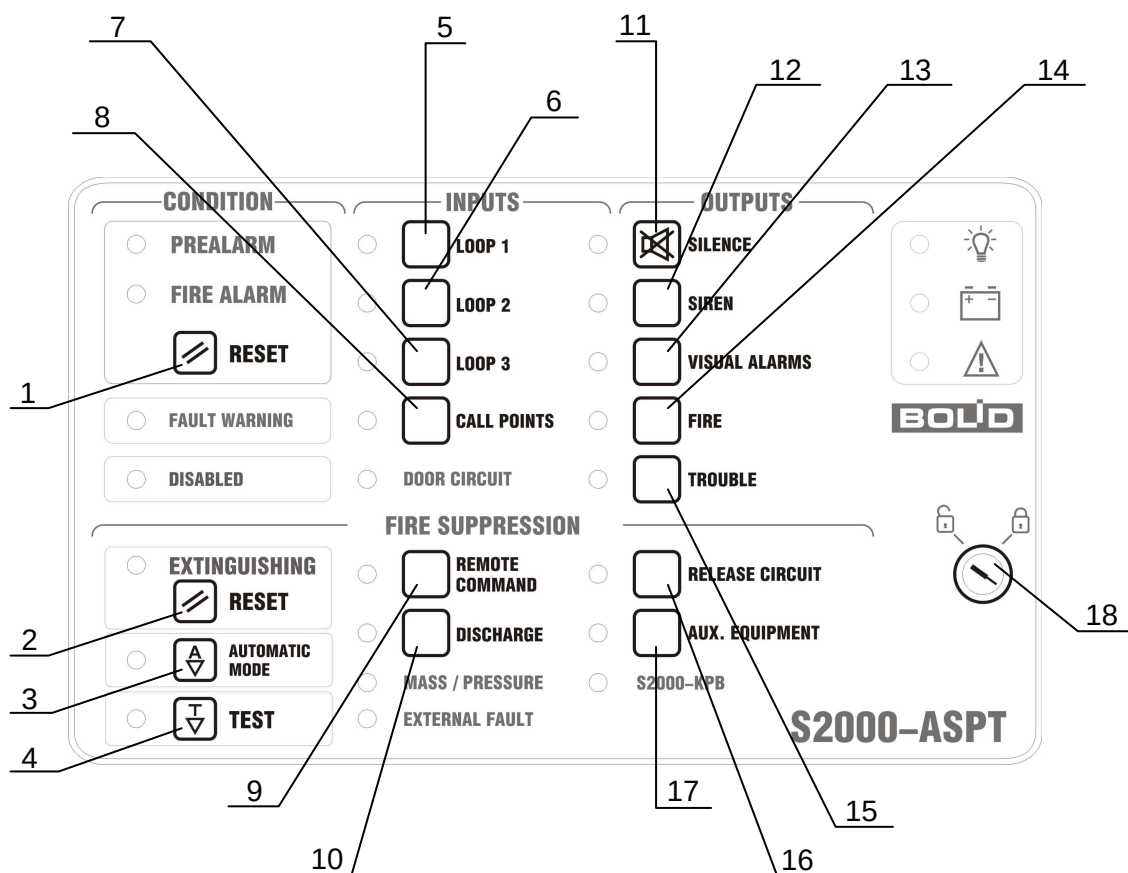

Figure 2.2 Push Buttons and Key Switch
2.9 There are 17 function pushbuttons and a key switch on the faceplate of the S2000-ASPT. The arrangement of the pushbuttons is shown in Figure 2.2. Destination of the pushbuttons is described Table 2.3.